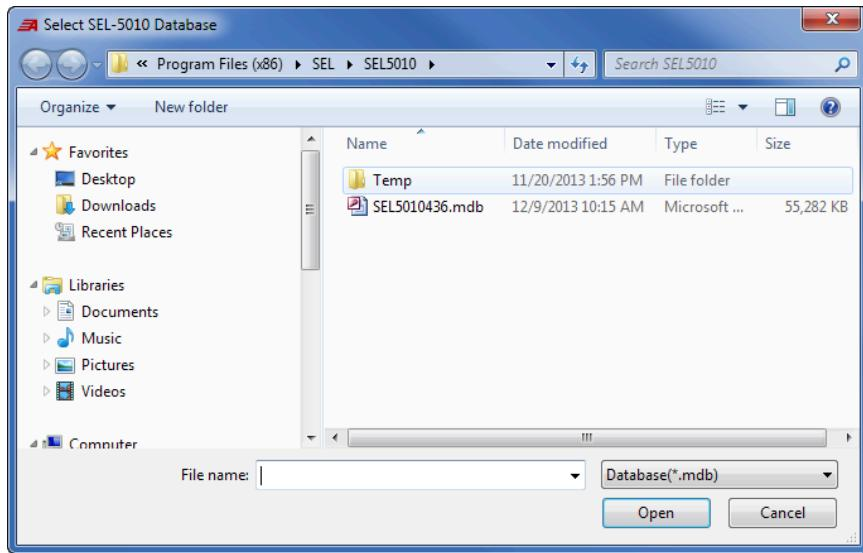

Figure 9.5 Select SEL-5010 Database to Import
Step 7. In the pop-up dialog box that displays, choose the SEL-5010 database that you want to import and click **Open** (see *Figure 9.5*).